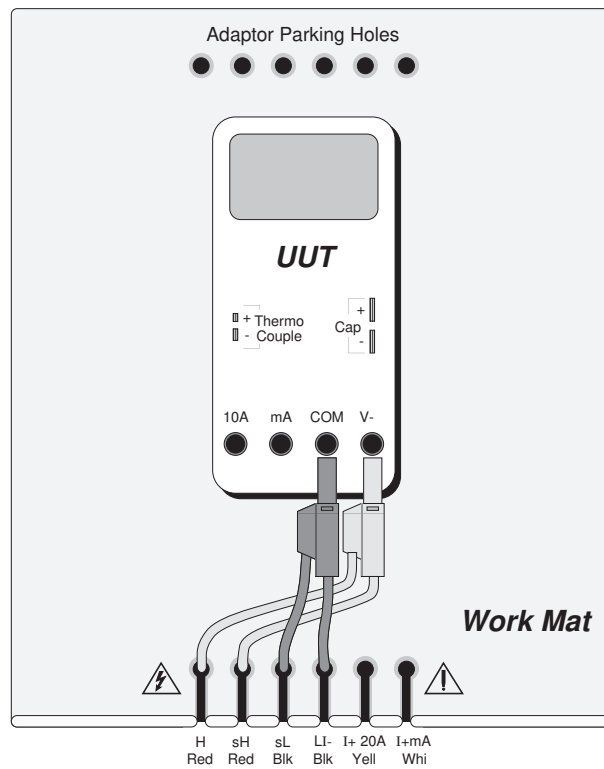

Fig. 17.1 Connections for Logic Levels Calibration
1. Connections Connect the 9100 to the UUT as shown in Fig. 17.1 , and ensure that both instruments are powered ON and warmed up.
17.4.2 Sequence of Operations Refer to the table of UUT calibration points in the Manufacturer's Calibration Guide for the UUT. Follow the sequence of calibration stages as directed by the guide, and carry out the following operations (1) to (5) at each stage.
Connect the 9100 to the UUT as shown in Fig. 17.1, and ensure that both instruments are powered ON and warmed up.